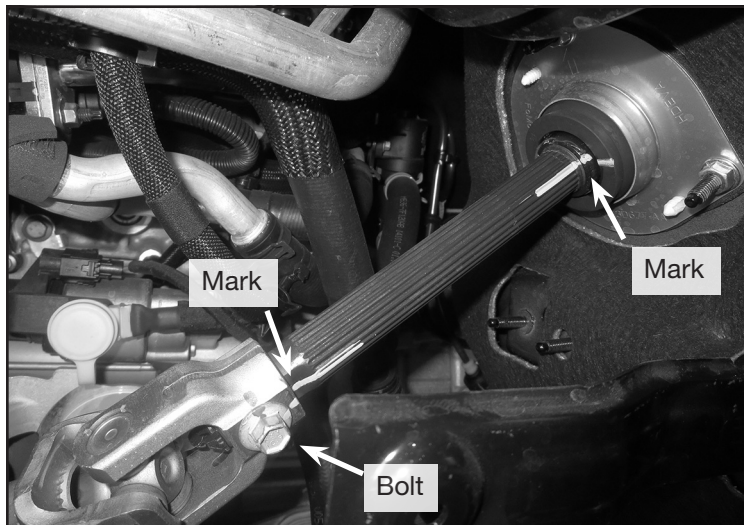

FIGURE 1 - STEP 3
3. Locate the steering linkage. Using a paint pen mark a line on the both the u-joint and at the firewall. Remove the bolt and slide the linkage away towards the firewall. Do not rotate the shaft. **SEE FIGURE 1**